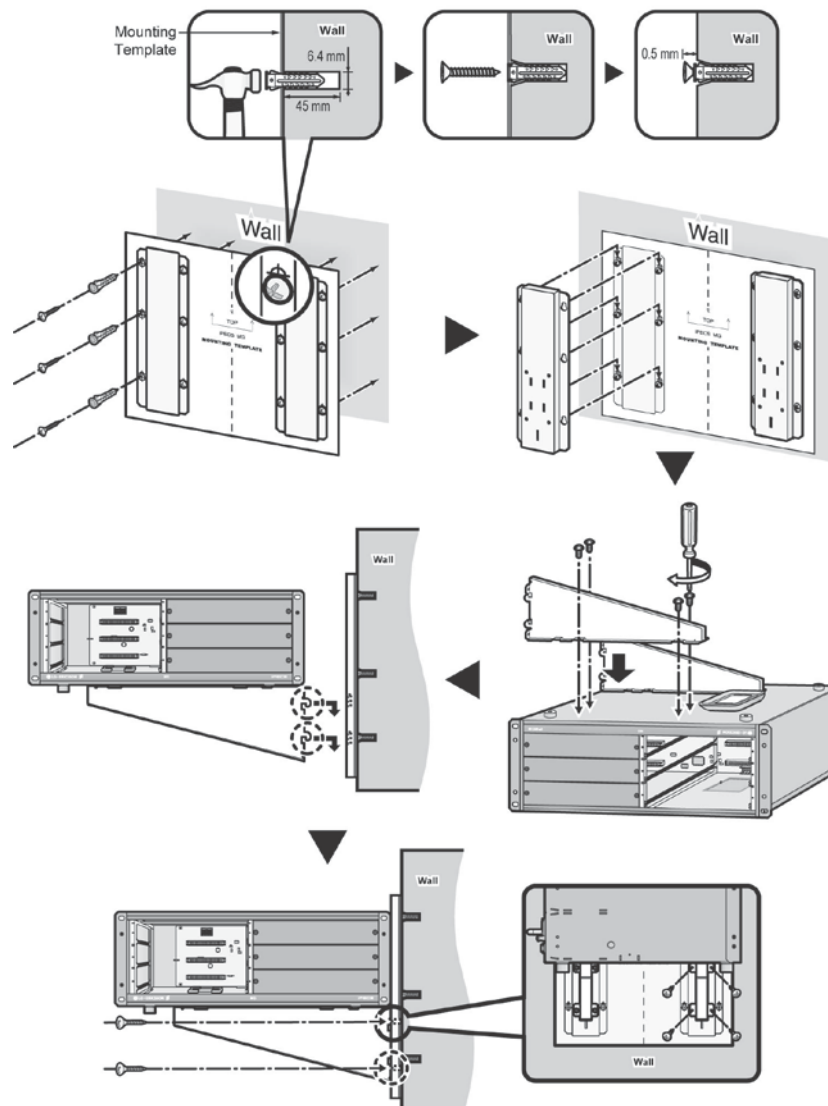

Figure 4.4.2-1 Wall Mounting
2. Install 12 anchor plugs into the wall using the mounting template (Figure 4.4.2 1 Wall Mounting).
6. Install the Rack Mount brackets to each side of the KSU with the eight (8) screws provided.
7. Attach the Wall Shelf brackets to the bottom of KSU and affix using the eight (8) screws provided.
9. Affix the Wall Shelf brackets to the Wall Bracket using the four (4) screws provided.